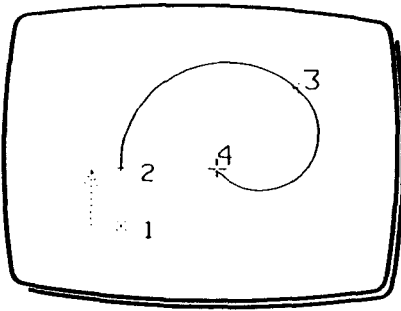

Fig 3
- 3 Move XY to position the dynamic cursor at (1) in Fig 3.